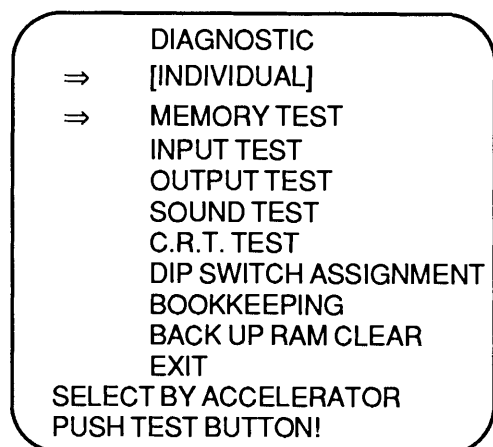

FIG. 1
- (1) Push the test switch and Fig. 1 will be shown on the screen.
- (2) Select CONTINUE or INDIVIDUAL by using the START button.
- (4) When each test is finished in the case of CONTINUE, push the TEST button, and it will automatically go into the following test. If the TEST button is pushed in the case of INDIVIDUAL, Fig. 1 is shown. If you want to end the test mode at this time, bring the arrow to EXIT and push the TEST button, and it will return to the ADVERTISEMENT mode.
Every time the start button is pressed, the bookkeeping test display is repeated. When the test is finished, push the TEST button to end the test (in the case of "INDIVIDUAL", however, the test mode returns to Fig. 1 first).